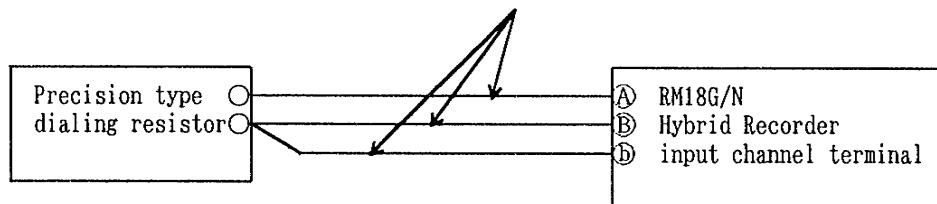

Fig. 11.9 Wiring for Range Adjustment 2 (Rear Part Input)
- ◆ In case the rear part input, install input wiring to the impressed input channel terminals selected as described in the article ◆ (see Fig. 11.9).